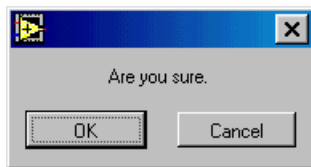

Figure 4-4. Delete User Message Box
2. Select the user name you want to delete from the **User** list. Click **Delete User**. A message box opens (Figure 4-4).